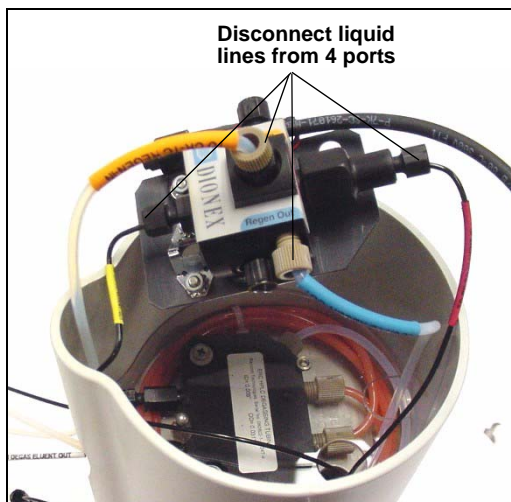

Figure 5-54. Disconnecting CR-TC Liquid Lines
3. Disconnect the line labeled **TO INJ VALVE IN - P/ELUENT OUT** from port **P (2)** on the injection valve and disconnect the line labeled **SRS/AES REGEN OUT** from the **REGEN OUT** port on the suppressor.
7. Disconnect the liquid lines from the four ports on the CR-TC (see Figure 5-54).